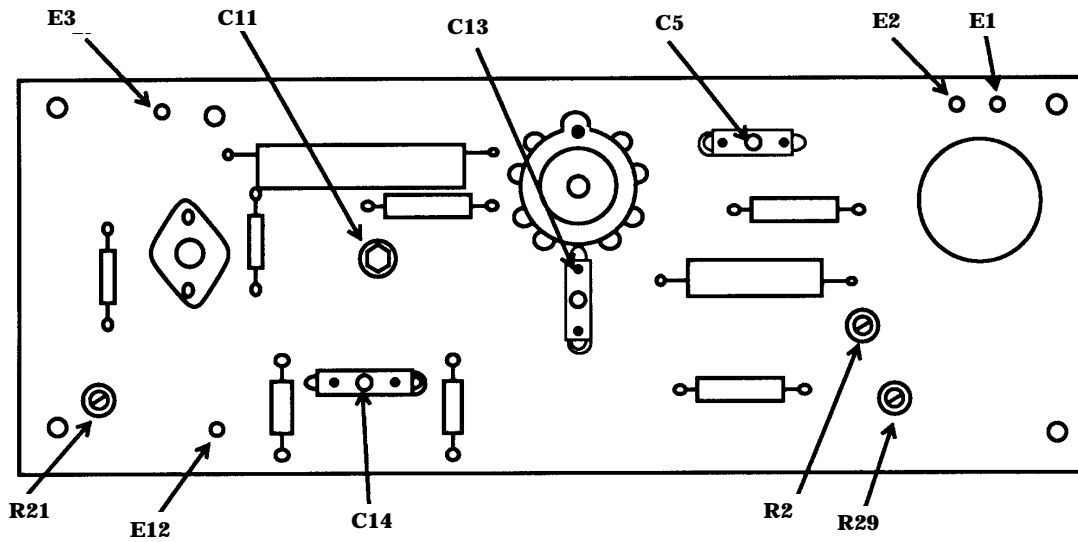

Figure 1. AN/URM-127 - adjustments
(2) Adjust R2 (fig. 1) until **OUTPUT RMS** meter indicates 1.15 (R).
(3) Adjust **OUTPUT CONTROL** until audio analyzer indicates 10 V.
(4) Adjust R29 (fig. 1) until **OUTPUT RMS** meter indicates 1.0 (R).
- (1) Set **FREQ RANGE MULTIPLIER** switch to **X100** and frequency dial fully ccw to mark on dial.
- (2) Adjust C11 (fig. 1) until audio analyzer indicates between 21.400 and 21.500 kHz (R).
- (3) Slowly rotate frequency dial cw until audio analyzer indicates 20.000 kHz.
- (4) Reposition frequency dial to indicate **200**.
(5) Set frequency dial in turn to **100, 60, 40, and 20**. If audio analyzer does not indicate within 2 percent of settings, repeat (1) through (4) above for best in-tolerance condition.
(6) Repeat **a(4)** above. If audio analyzer does not indicate within limits specified, perform (7) through (15) below.
(7) Set C14 (fig. 1) to the half-open position.
(8) Set **FREQ RANGE MULTIPLIER** switch to **X1K** and frequency dial to **20**.
(9) Adjust C5 and C13 (fig. 1) until audio analyzer indicates 20.000 kHz (R).
(10) Turn **OUTPUT CONTROL** fully cw.
(11) If required, readjust C5 and C13 (fig. 1) until **OUTPUT RMS** meter indicates at least 1.15 and audio analyzer indicates 20.000 kHz.
Increase capacitance of C5 and decrease capacitance of C13 (fig. 1).
(12) Set frequency dial to **200**.
(13) Adjust C14 (fig. 1) until audio analyzer indicates 200.00 kHz (R).
(14) Set frequency dial to **20** and repeat (11) through (13) above for best in-tolerance condition.
(15) Repeat **a(1)** through (4) above and, if required, (1) through (14) above for best intolerance condition.
(16) Set **FREQ RANGE MULTIPLIER** switch to **X100** and frequency dial to **20**.
(17) Readjust frequency dial until audio analyzer indicates 2000.0 Hz.
(18) Reposition frequency dial to indicate **20**.